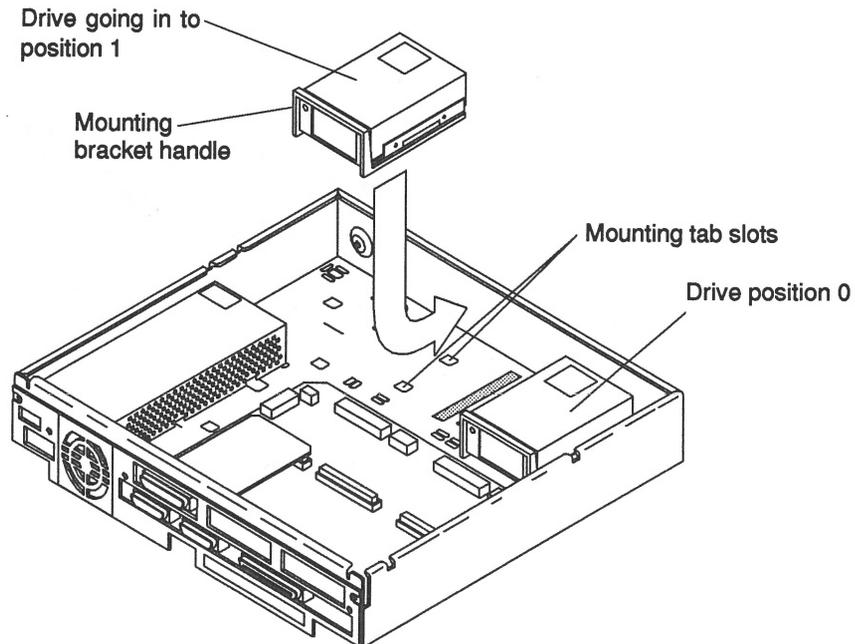

Figure 4-9 Installing the Disk Drive in an SBus Expansion Subsystem
8. **Lower the drive and bracket into the chassis. Refer to Figure 4-9.**
9. **Slide the disk drive forward by pressing the front of the bracket toward the front of the chassis. Refer to Figure 4-9.**